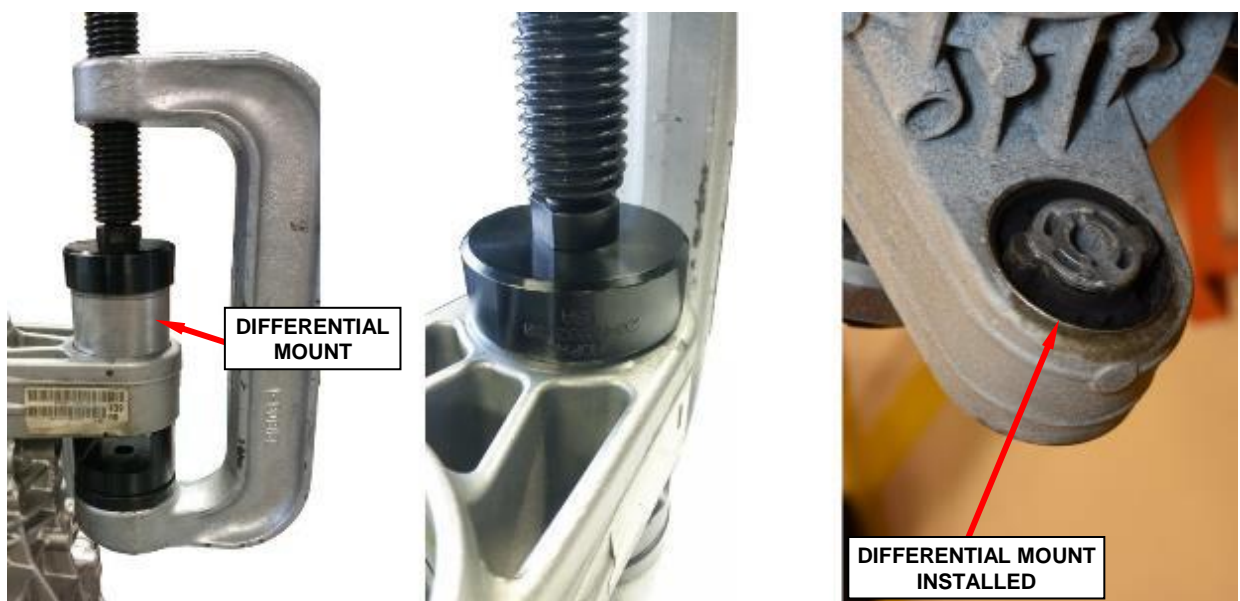

Figure 21 – Rear Axle Differential Mount Installation
18. Install the **new** differential mount in the **new** rear axle differential housing using; Ball Joint Press C-4212F, Center Screw Pin Adapter C-4212-7, Ball Joint Press Adapter C4212-6, Large Bushing Remover 2046502130 and Small Bushing Installer 2046507130 (Figure 21).